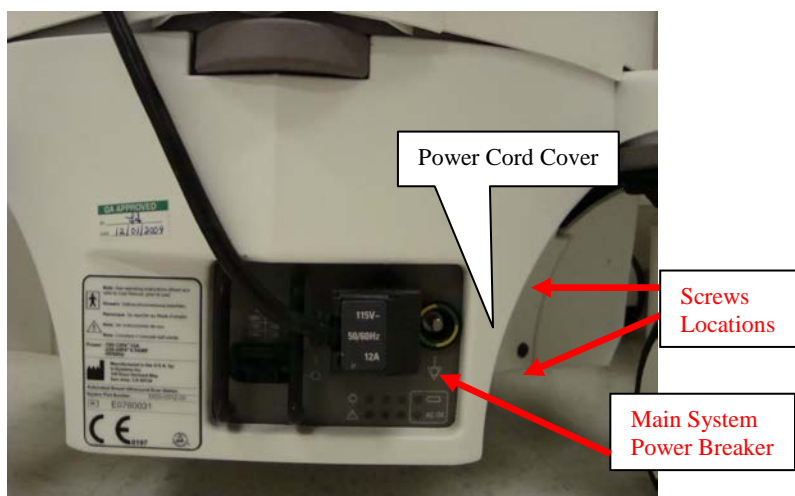

Figure 17.B. Main Power Cord Assembly (bottom-rear side of the Scan Station)
- (c) Completely remove the Power Cord and the metal Cover from the socket by unplugging the Power Cord, the metal Cover may not separate from the Power Cord during this portion of the process (see the Figure 17.C. below).